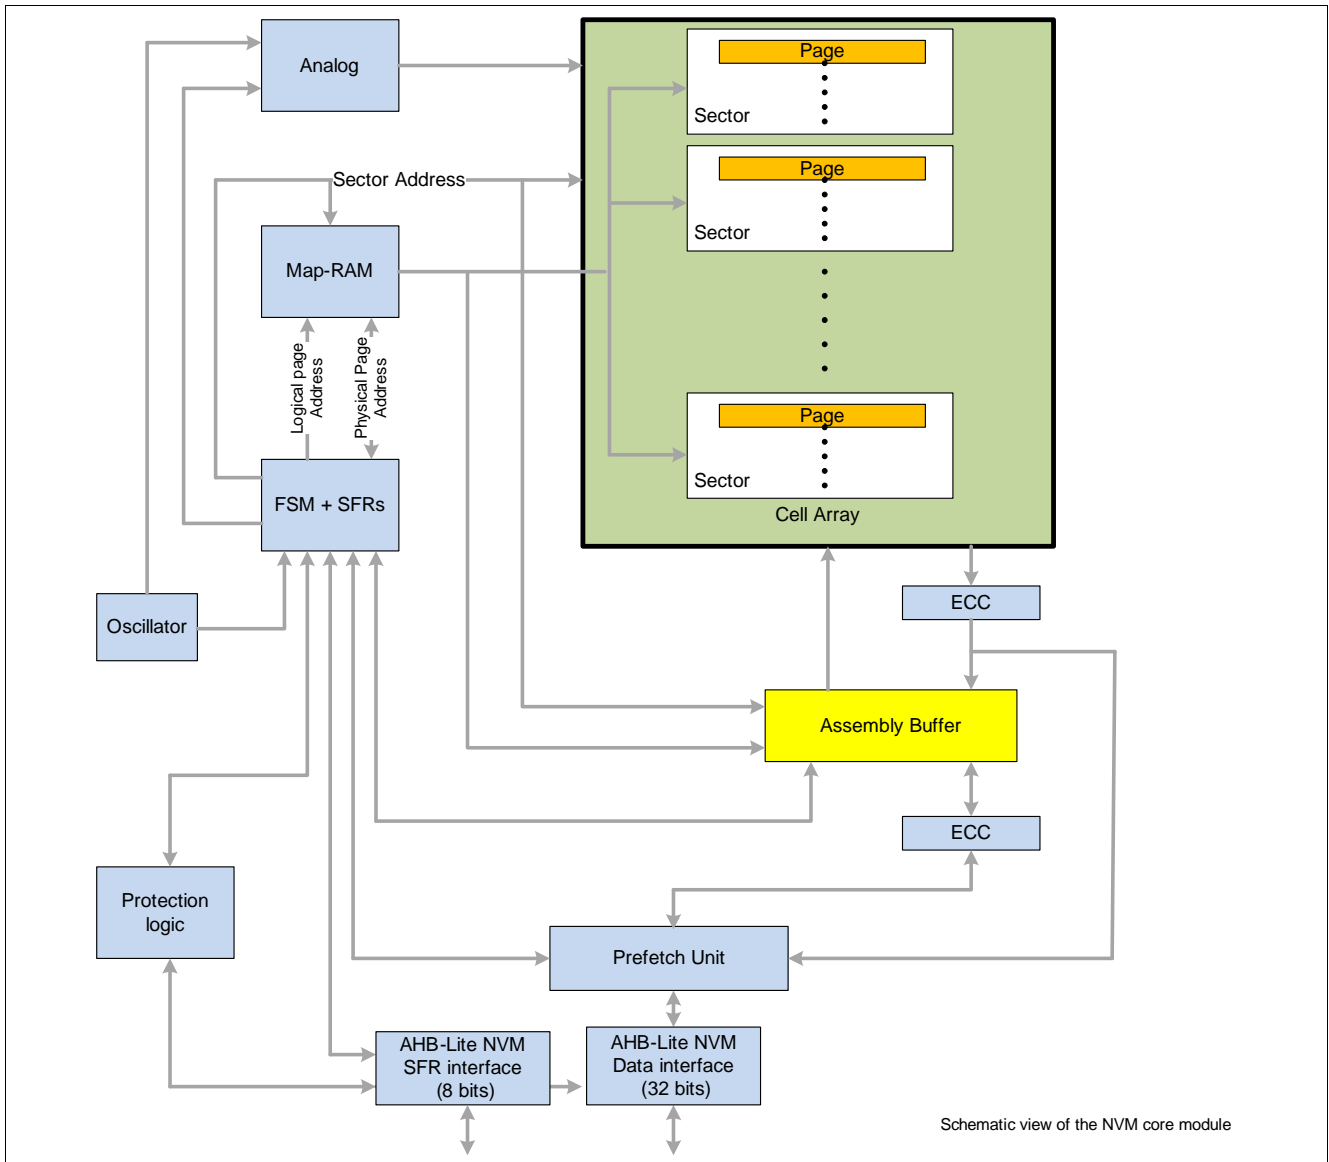

Figure 56 Schematic View of the NVM Core Module
**Figure 56** shows a schematic block diagram of the NVM module